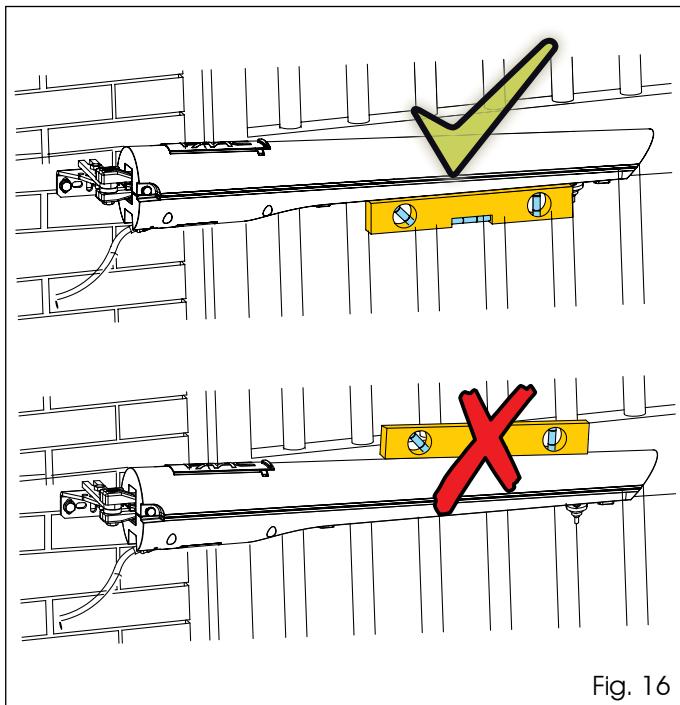

Fig. 16
9. Check that the operator is horizontal using a level **on the bottom side of the operator as indicated in Fig. 16**, and temporarily secure the front bracket with clamps or two welding spots.